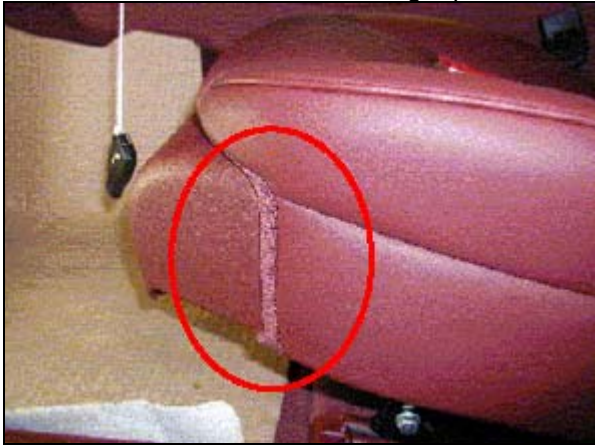

Figure 12
1. Remove trim cover (Figure 12). Refer to WIS Document AR91.10-P-1200T.
3. Reinstall trim cover (Figure 12). Refer to WIS Document AR91.10-P-1200T.